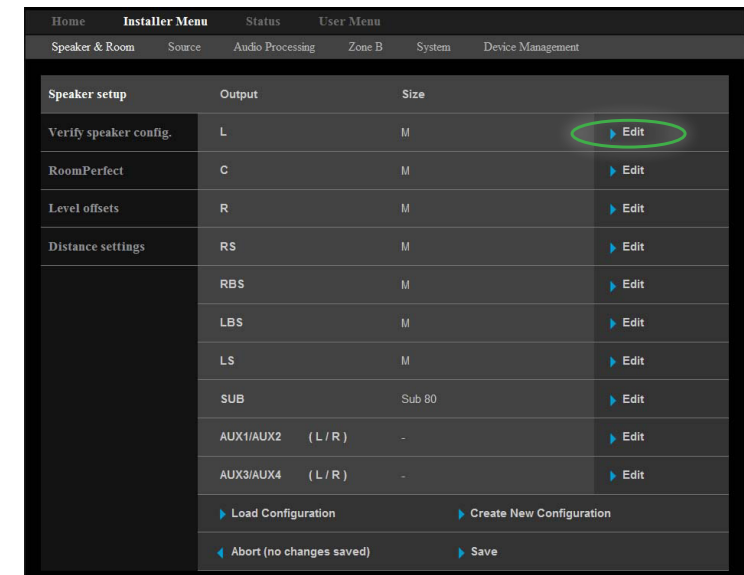

Figure 6
- Select the "L" Output by clicking on "Edit" on the same line. Refer to figure 6.